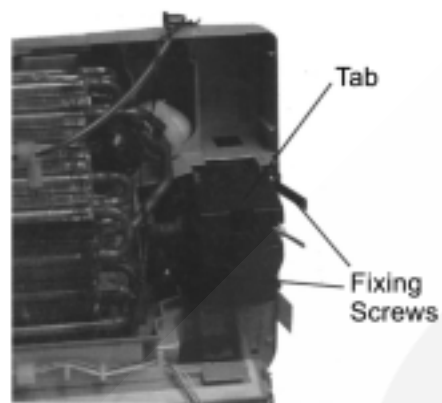
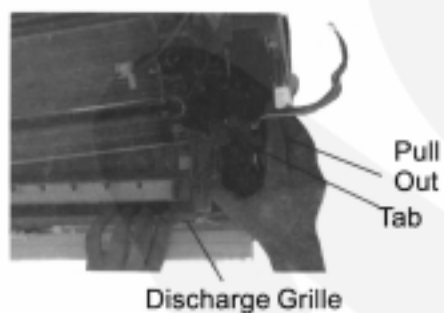

Fig 6
Fig 7
2. Untighten two fixing screws of the fan motor, release two tabs and remove the discharge grille. (**Fig 6, Fig 7**)